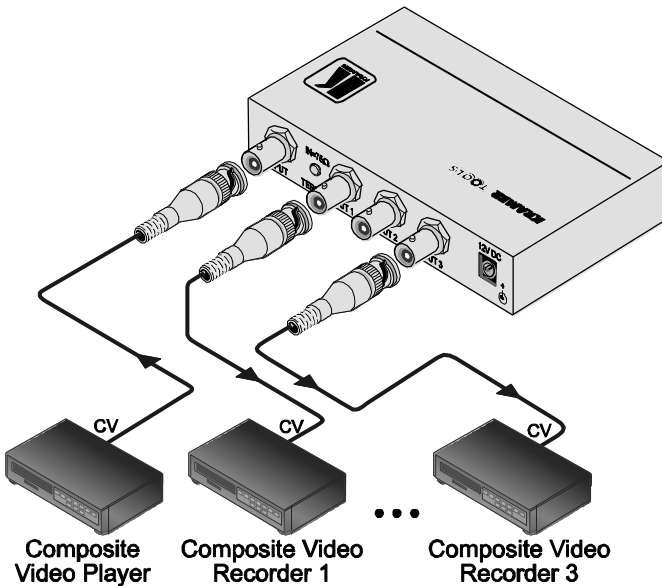

Figure 6: Connecting the VM-3VN Video Distributor
To connect¹ the **VM-3VN**, as illustrated in the example in *Figure 6*, do the following:
4. Connect the 12V DC power adapter to the power socket and connect the adapter to the mains electricity (not illustrated in *Figure 6*).
5. If required, adjust output equalization (EQ) and signal level (LEVEL) by turning the appropriate trimmer with a small screwdriver.